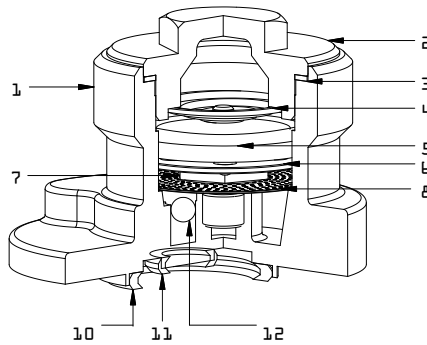

Figure 1: Forbes Marshall Universal Tracer Line Trap
4.1 Operations of Forbes Marshall Universal Tracer Line Trap : (Refer Figure 1)